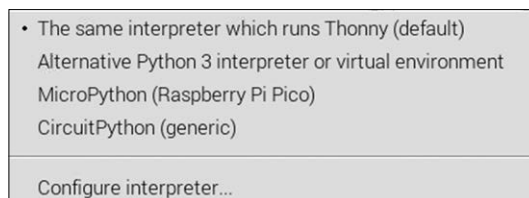

Figure 2.8: Select: Raspberry Pi Pico.
- Click to select **MicroPython (Raspberry Pi Pico)** as shown in Figure 2.8.